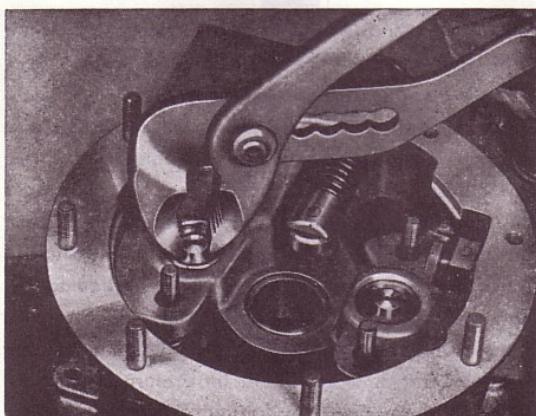

Fig. 14. Removing piston
1. Remove the cover over the oil strainer and the cover over the operating lever (13). Take out the oil strainer. Unscrew the bolts and lift out the solenoid (18).
2. Bend down the locking tabs, unscrew and remove the nuts for the piston bridge pieces (56). Remove the bridge pieces. Pull out the pistons with the help of pliers as shown in Fig. 14.
3. Unscrew the nuts which hold the brake ring (41), front casing (48) and rear casing (20) together. Loosen the bolts successively all round in order to avoid any distortion from the springs. Lift off the front casing and brake ring.
4. Lift out the clutch sliding member (43) complete with thrust bearing and sunwheel. Remove the